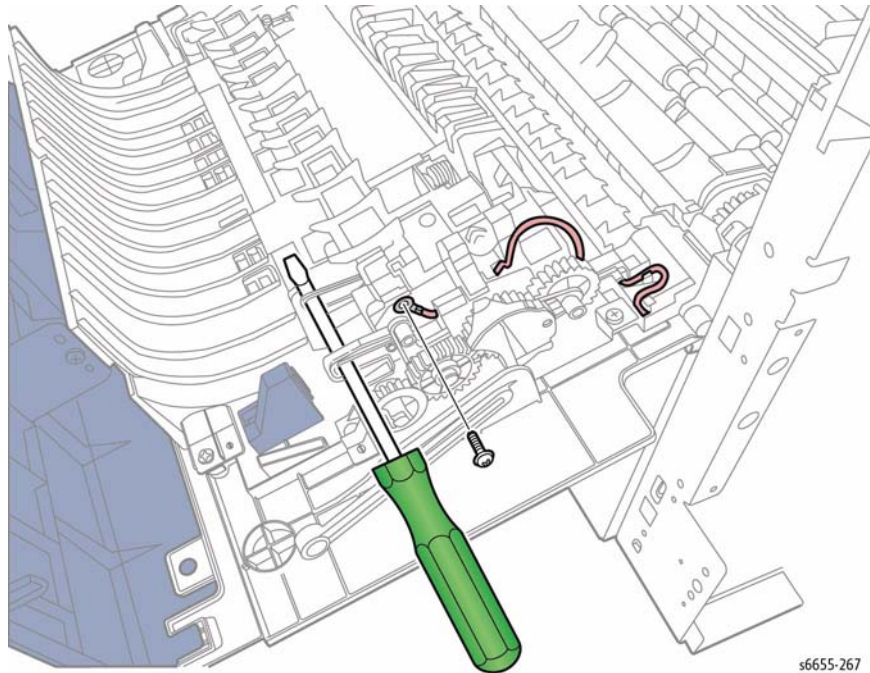

Figure 1 Remove the Transfer HVPS Harness
NOTE: In the following step, to gain access to the screw attaching the wire to the Duplexer, squeeze the Duplexer together and lock in place with a small screwdriver as shown in Figure 1.
3. Refer to Figure 1 to locate and remove the screw (silver, tapping, 8 mm) that attaches the power supply (pink wire) to the Duplex Assembly, and release the wire from the harness guide.